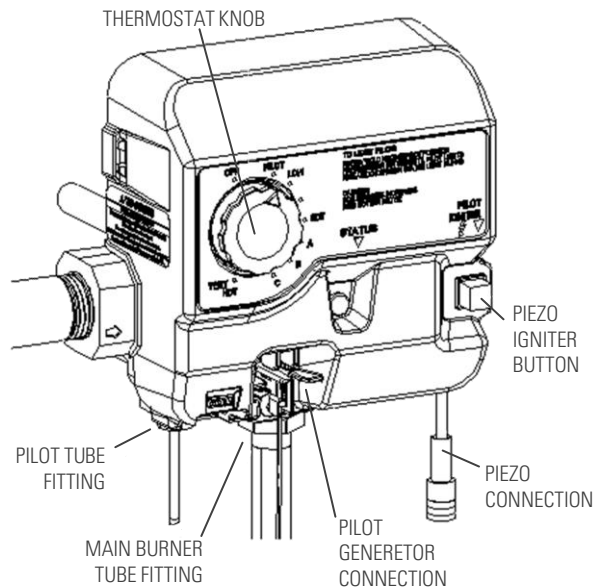

Figure 2. Gas control features
- The 695 NGA with **BLACK** thermostat knob (see Figure 2) is allowed to be used with **Natural Gas only**
- The 695 NGA with **RED** thermostat knob (see Figure 2) is allowed to be used with **LP Gas only**
3. Remove the two electrical connections that are plugged into the control (Figure 2).
7. Disconnect main burner tube fitting and pilot tube fittings (Figure 2).
6. Reconnect the electrical connections to the control. There are three connections for the control. Connect the positive lead from control to the thermal switch on the tank. Connect negative lead (white) from pilot generator to the negative terminal on control. Connect piezo spark connector to igniter wire connector (Figure 2).